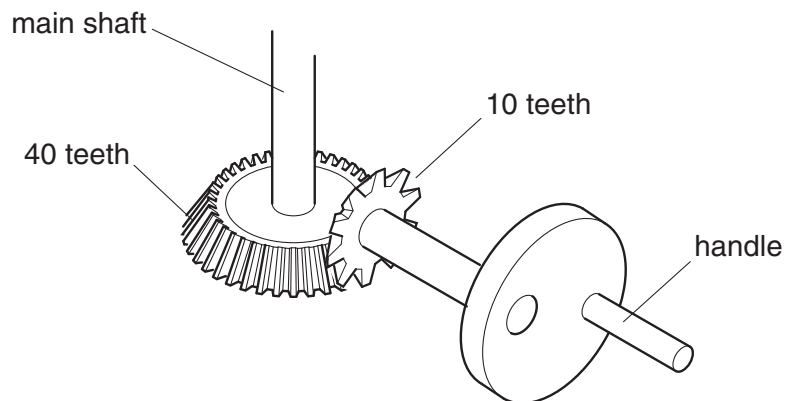

Fig. 8
Fig. 8 shows details of the gear mechanism.
- (b) Calculate the rpm of the **main shaft** on Fig. 8.